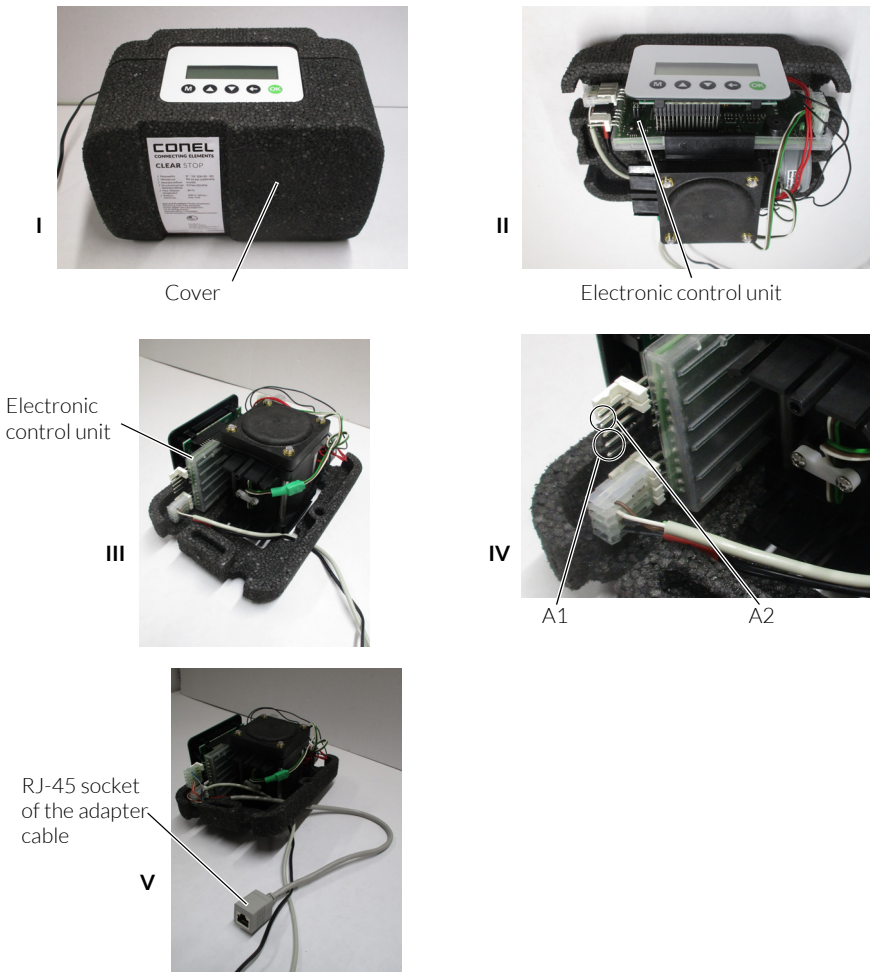

Fig. 6: Connecting the adapter cable to the CLEAR STOP device
- / Pull the cover forwards (see fig. 6 I and 6 II).
- / Plug both plugs of the adapter cable on to plug-in positions A1 and A2 of the electronic control unit (see fig. 6 III and 6 IV).
- / Lead the adapter cable to the rear out of the device (see fig. 6 V) and secure with cable ties.